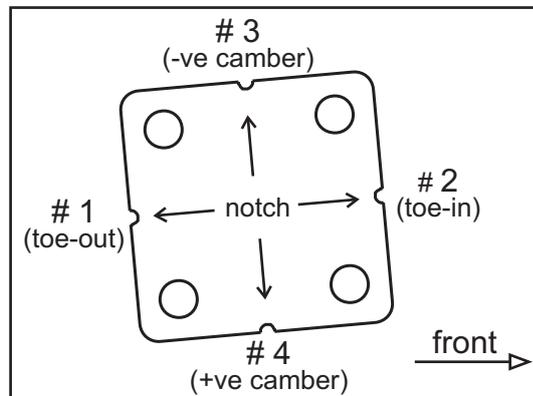

Figure 1.
9. With reference to the following guide and figure 1, select the appropriate shim and position required and fit one shim per side onto the hub as shown in photo 3.